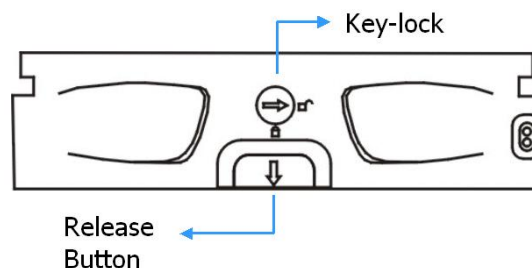

Figure 5-12: Front View of an Individual Drive Tray
- Step 2. **Open the front flap:** Once the drive tray has been identified, push the release button at the drive bezel. (See **Figure 5-12**) The front bezel will automatically be lifted and the drive tray should be easily dislodged from the chassis.